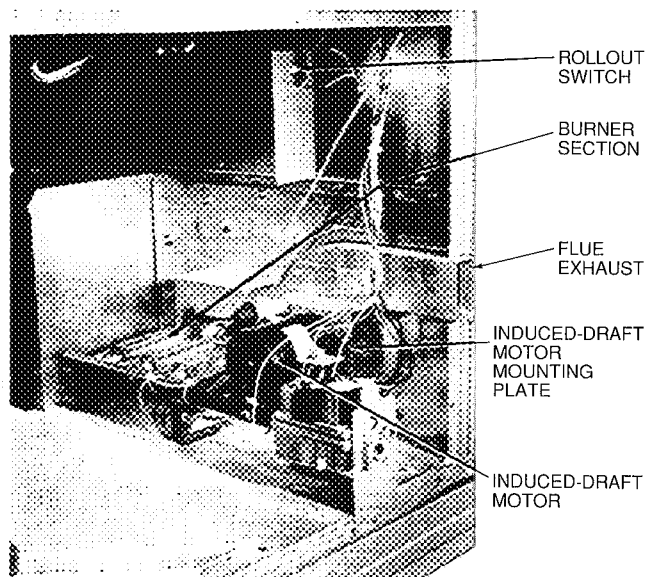

Fig. 41 — Burner Section Details
3. Remove the 7 screws that attach induced-draft motor mounting plate to blower housing (see Fig. 41).
REMOVAL AND REPLACEMENT OF GAS TRAIN (See Fig. 41 and 42.)